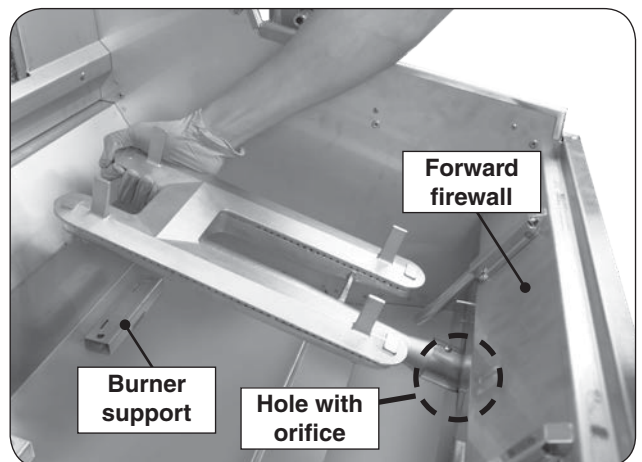

Fig. 40-2 Remove burners
3. Carefully lift the burner from the burner support and out from the hole in the forward fire wall. See Fig. 40-2.